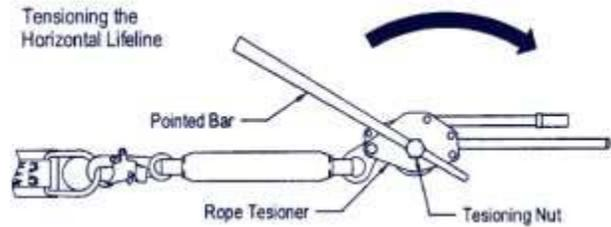

Figure 5
15. Remove Slack from HLL (Figure 5)